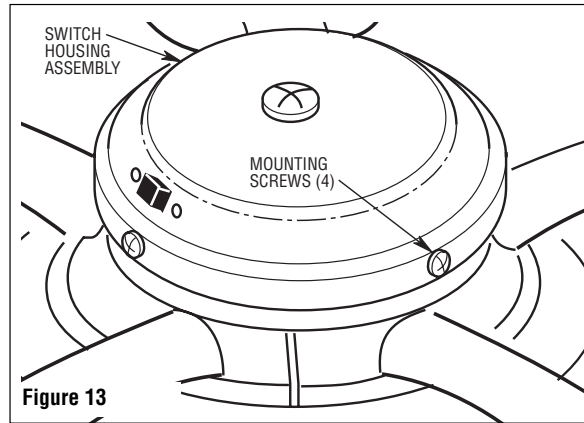

Figure 13
- Position the switch housing assembly on the switch housing plate and align the holes in the switch housing assembly with the holes in the plate. Secure the switch housing assembly by reinstalling the four screws removed previously (Figure 13).